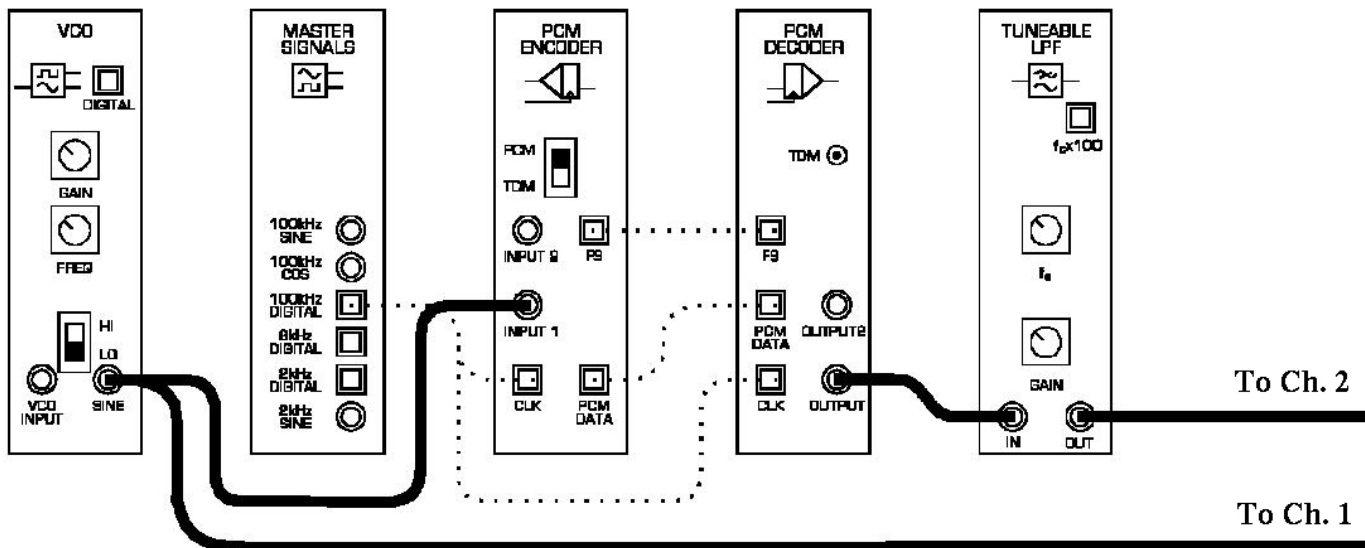

Figure 12:
4. Modify the set-up as shown in Figure 12.